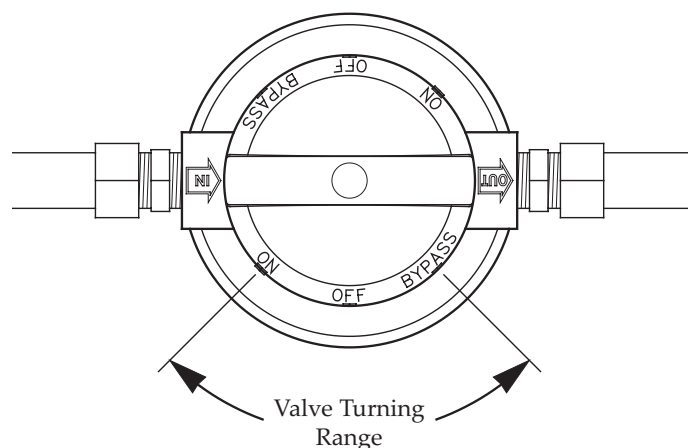

Figure 16
**CAUTION:** Forcing the valve handle beyond the "ON" or "BYPASS" positions will damage the valve (See Figure 16).